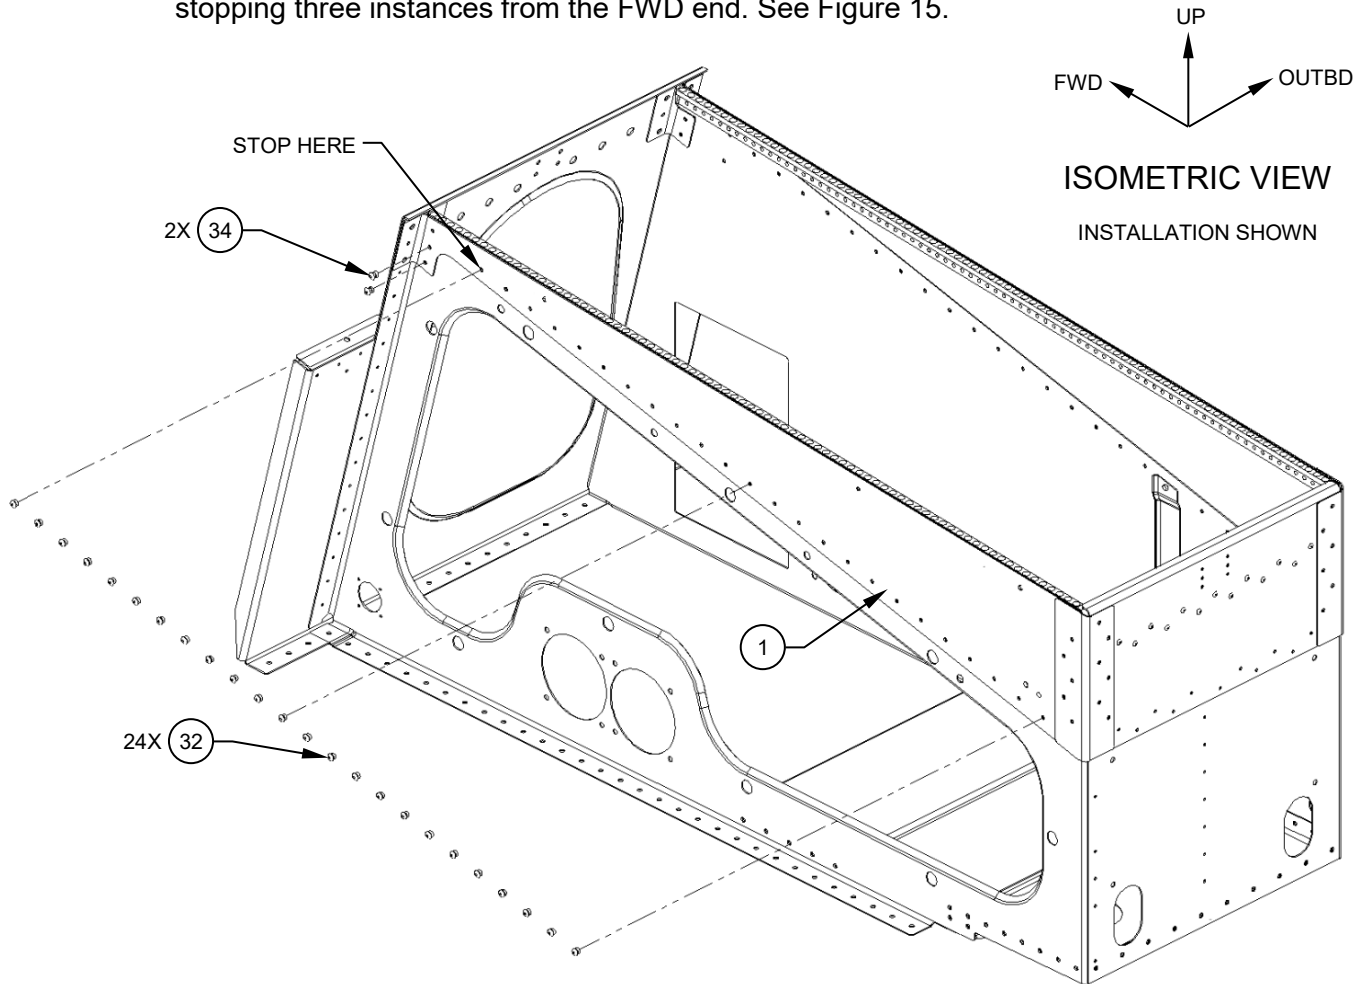

Figure 15
3.3. Fitting of the perimeter sheet metal components is now complete. Perform a thorough inspection to determine that all components are ready for the next stage. See figure 15.
4.1. Starting on the LHS. Back-drill from OEM structure thru the LHS Angle, Assy, (Item 1), for 2x Rivet, Solid, Universal Head, (Item 34), and 24x Rivet, Solid, Universal Head, (Item 32), stopping three instances from the FWD end. See Figure 15.